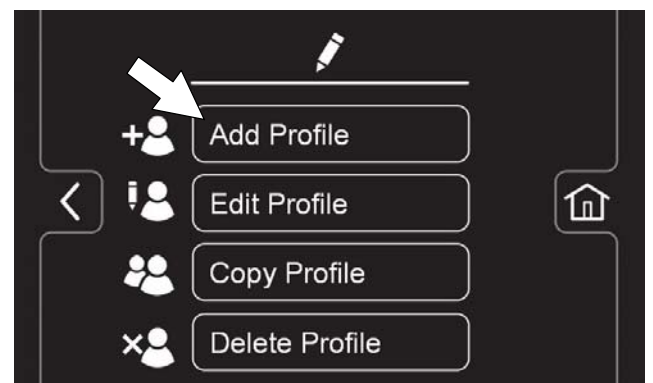

FIG. 163
- Press the Add Profile button to add a new user profile (Figure 163).